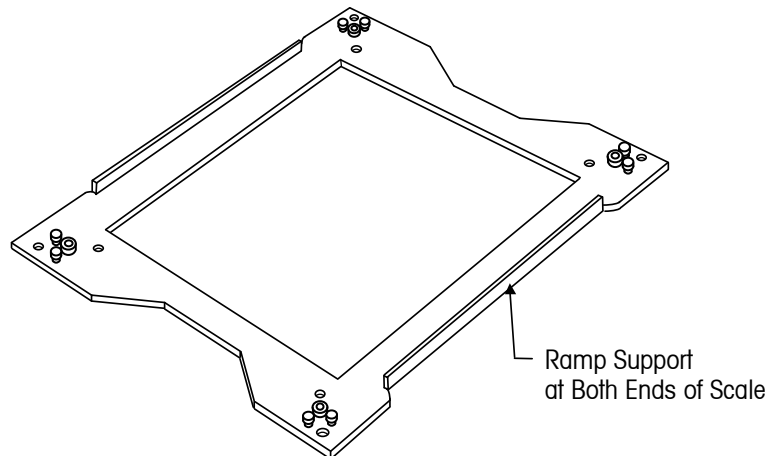

Figure 4-1: Support Frame
2. To install a ramp, place the mating end of the ramp over the ramp support (see figure 4-1).